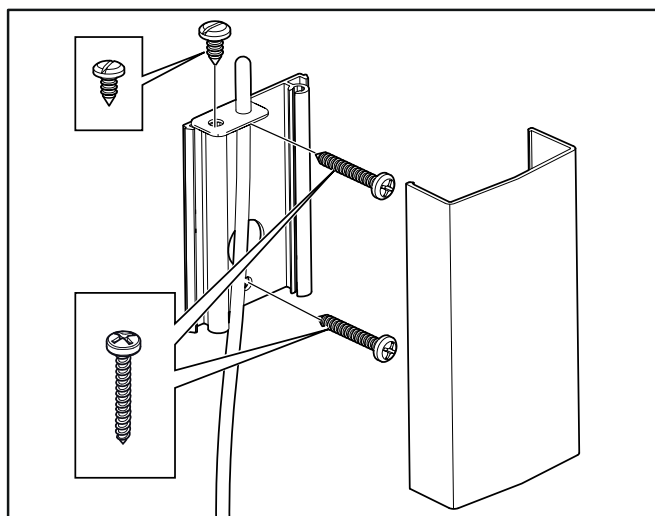
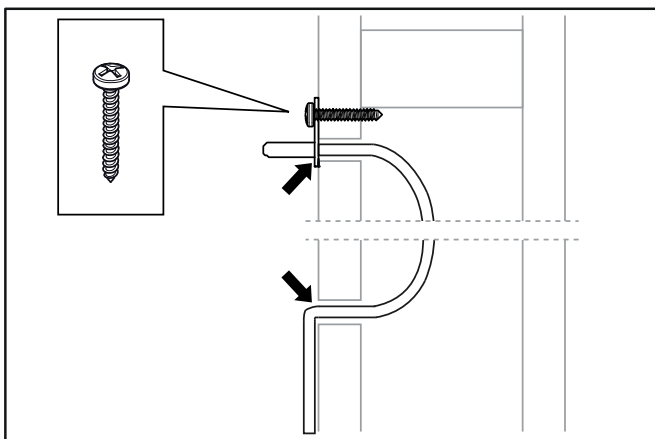

Figure 16: Installing the sensor
Figure 17: Seal any holes
13. Install the sensor on the wall see Fig 16. The thermistor wire may also be passed through the wall. Seal any holes in the wall behind the sensor, see Figure 17. The thermistor wire can be extended outside the sauna using low voltage wire (2-lead).